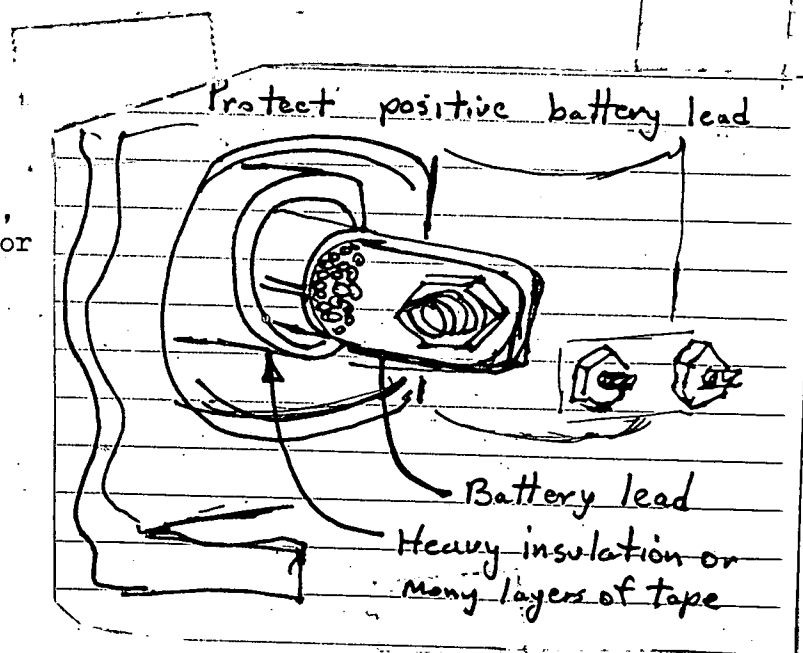

Figure 16
1. Connect positive battery cable to large bottom terminal on start solenoid. It is located on the front of the generator set (below control) as shown in Figure 16. ~~insulate the positive terminal~~